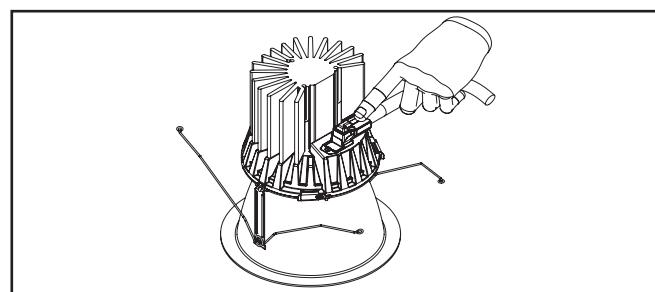

Figure 10
10. Properly align the connector as shown in (Figure 10). Plug in the luminaire quick disconnect on the module.